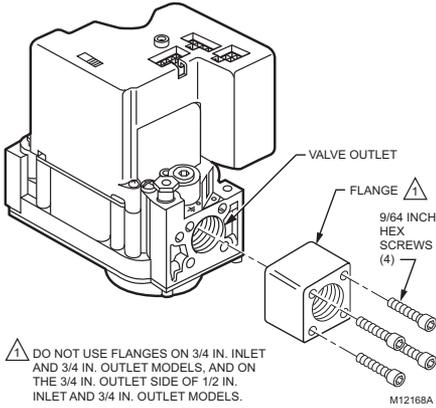

Fig. 1. Firmly fasten flange to valve, but do not overtighten screws.
4. With the O-ring facing the ignition system control, align the screw holes on the ignition system control with the holes in the flange. Insert and tighten the screws provided with the flange. See Fig.1. Tighten the screws to 25 inch-pounds of torque to provide a gas-tight seal.